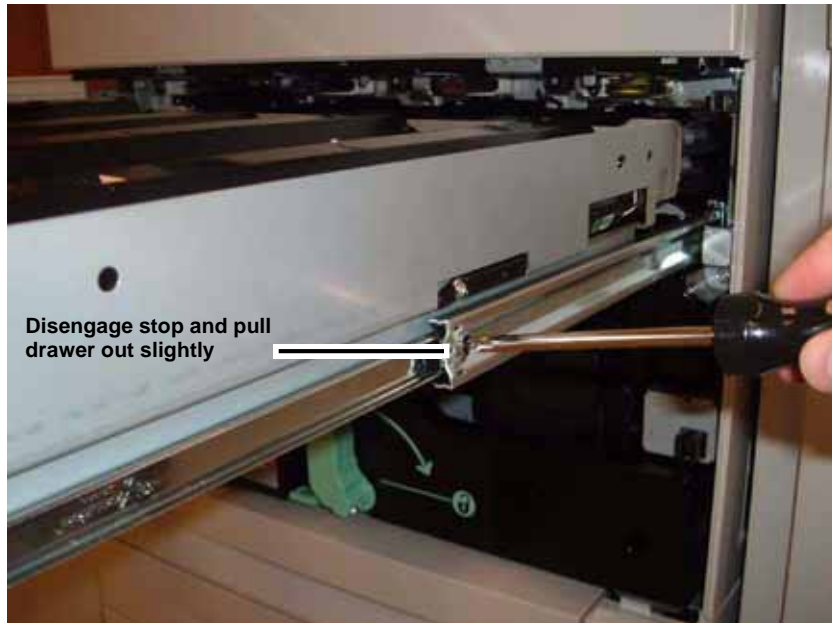

Figure 1 Disengaging first right stop
2. Disengage first stop on the right side (Figure 1).